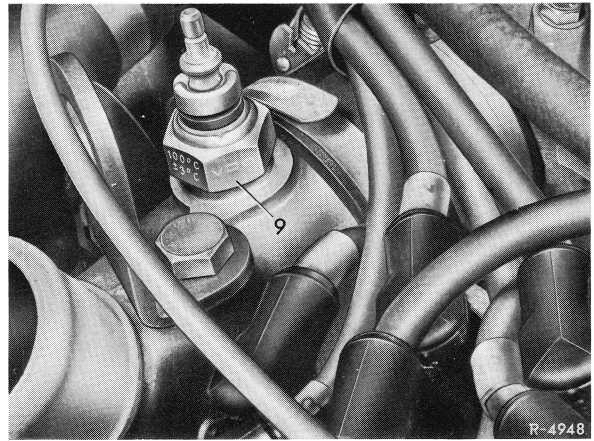

Fig. 6
2. By a **100° C temperature switch** (9) in thermostat housing (Fig. 6). The switch is closed above 100° C cooling water temperature and actuates the two-way valve (6) via relay (2) (ignition advance).